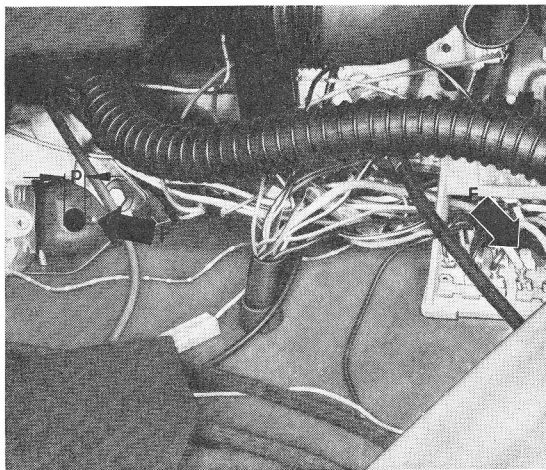

Fig. 8
- 7 – Cut the switch securing slot – F – from the passenger compartment (see Figure 8).